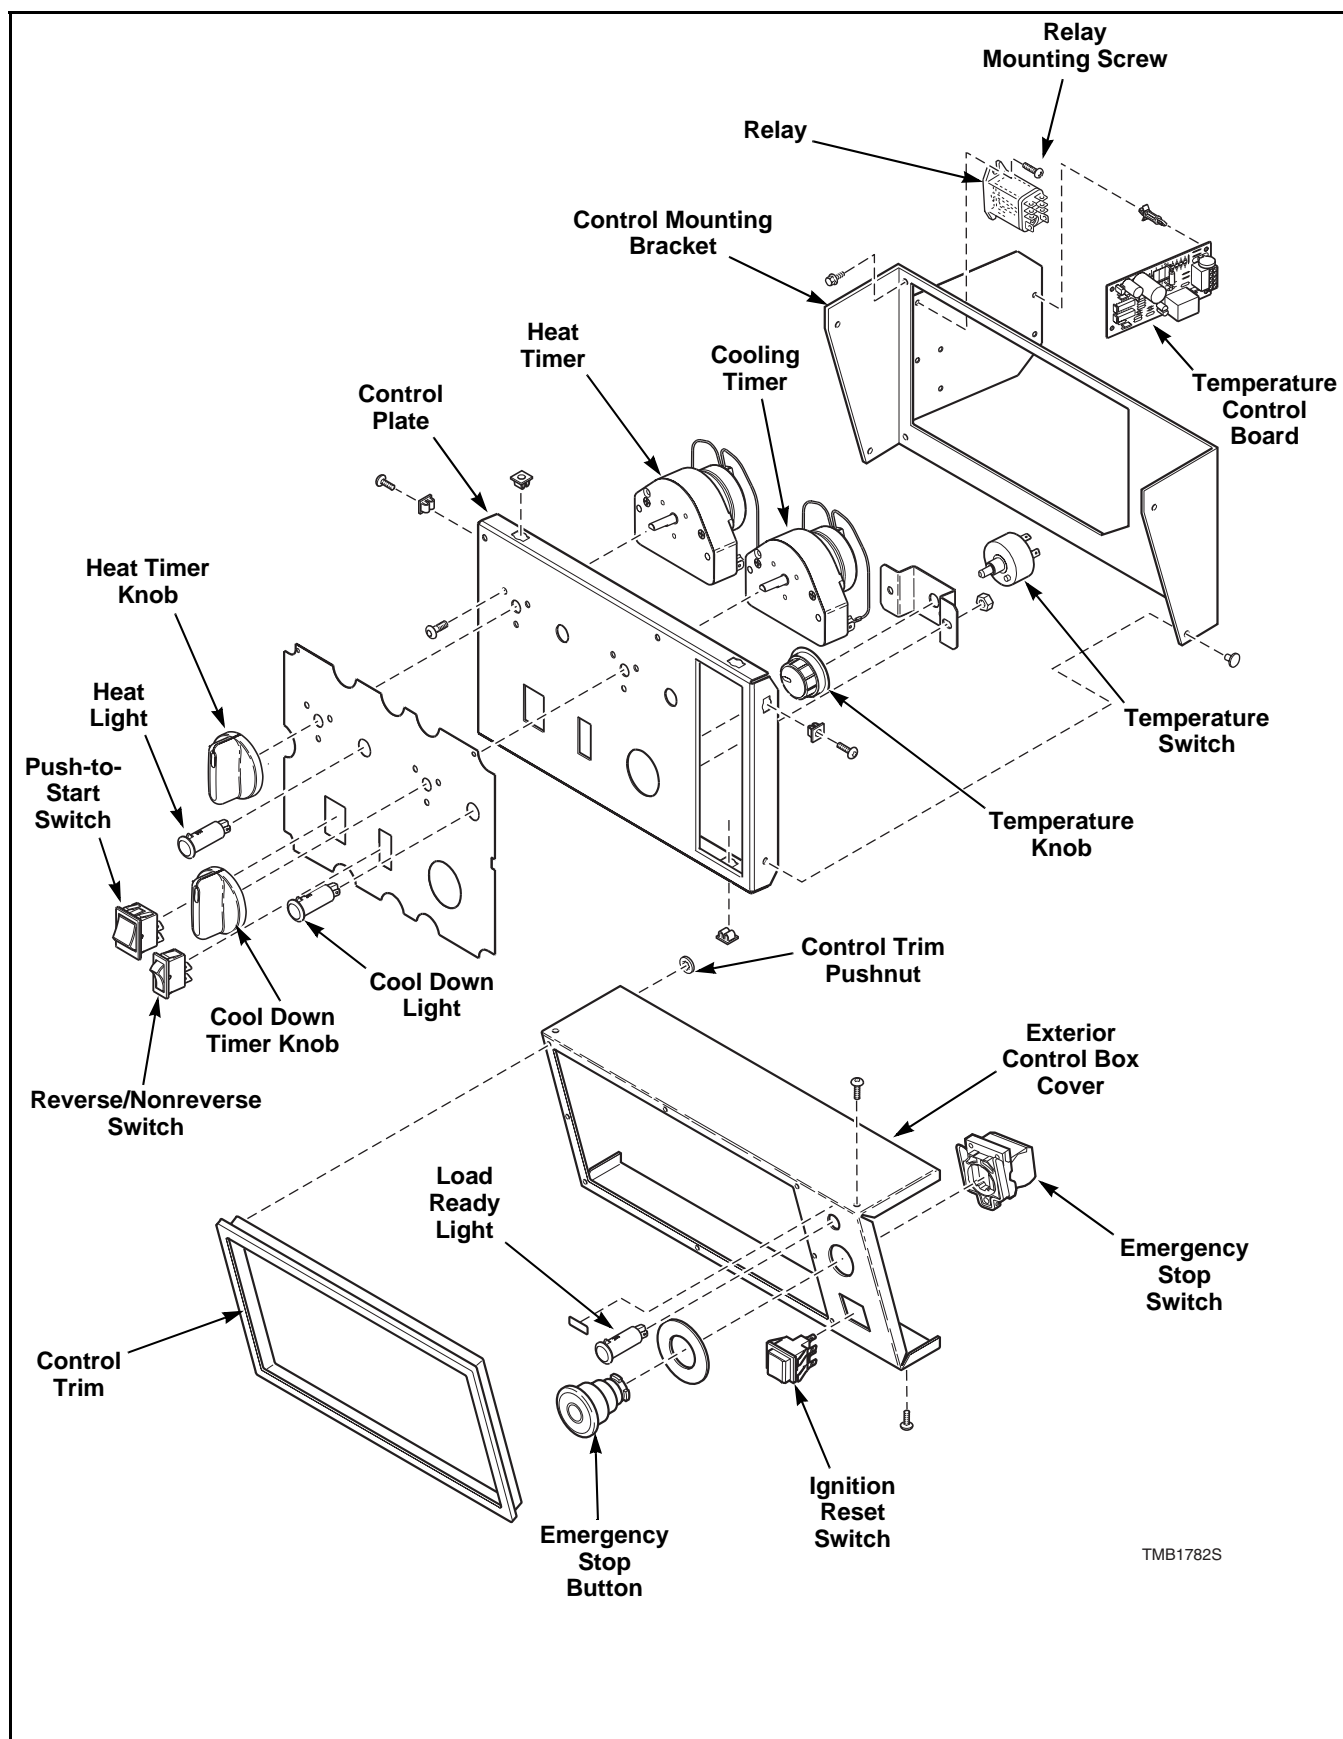

Figure 3
- Remove screw from left and right sides of control mounting bracket securing control plate. Refer to *Figure 3*.
Refer to *Figure 3*.
- c. Remove two screws holding switch to timer graphic panel. Refer to *Figure 3*.
- b. Pull timer knob off timer shaft. Refer to *Figure 3*.
- c. Remove two screws holding relay to interior control box. Refer to *Figure 3*.
- d. Pull knob off switch. Refer to *Figure 3*.